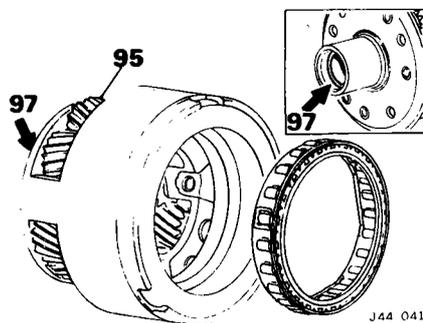

Fig. 40
- 95. Check gear teeth for chipping or scoring; light scoring may be disregarded (Fig. 40).
- 97. Check the bush for scores or evidence of metal transfer (Fig. 40).